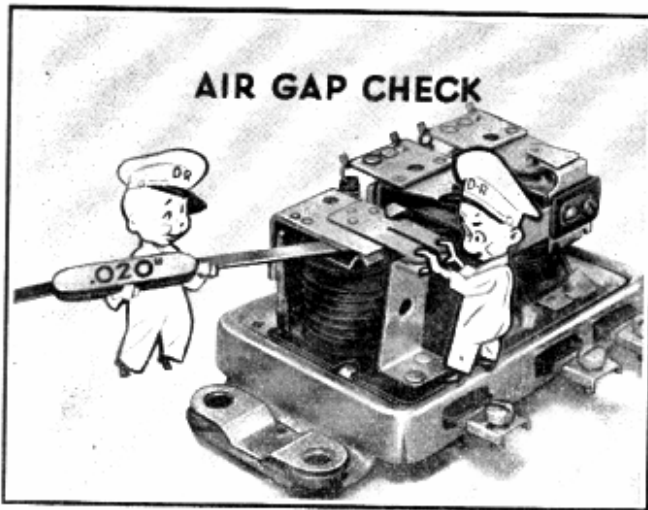

Fig. 22—Checking Air Gap
1. **AIR GAP**—Place finger on armature directly above core and move armature down until points just close. Then measure the air gap between the armature and center of core, which should be .020". If both sets of points do not close at the same instant, bend spring fingers so both sets meet simultaneously. (See Fig. 22.)